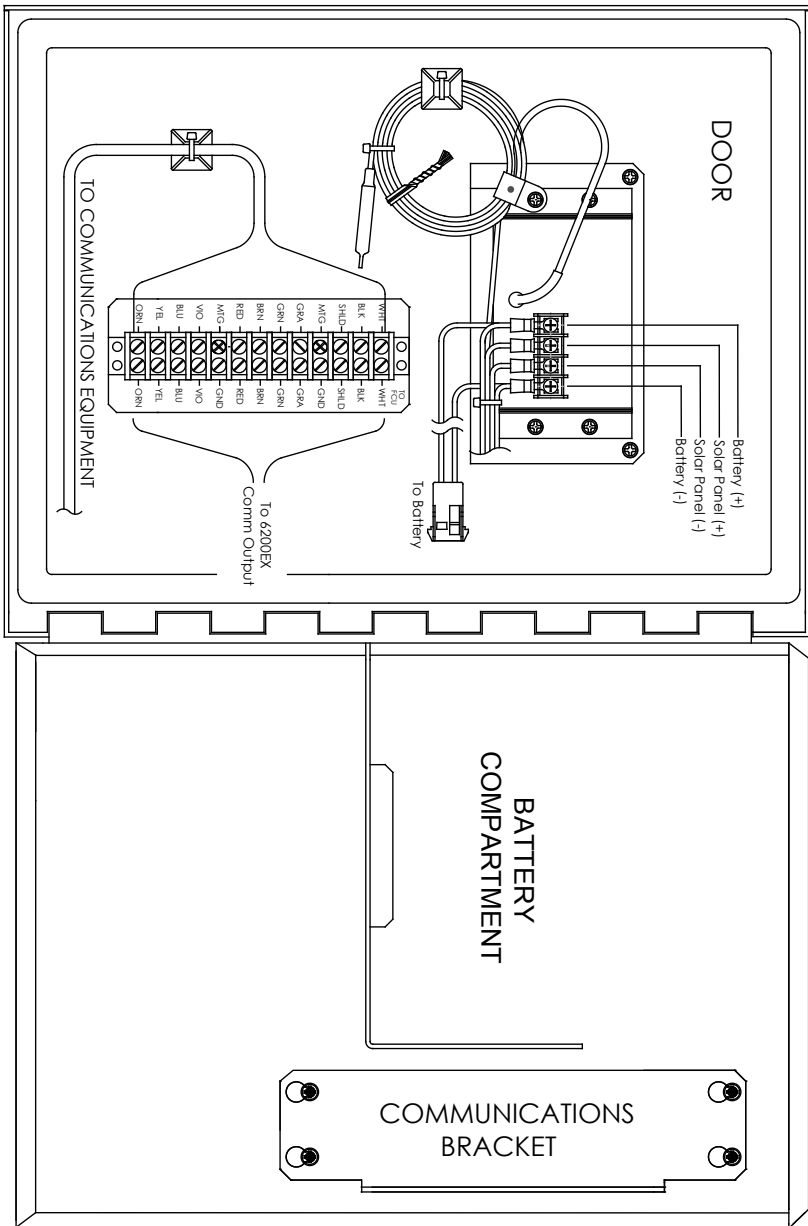

Fig. 9: OEU rotated 90 degrees for enlargement
3. Mount fully charged battery inside the optional enclosure or customer supplied equipment if required (Fig. 9). Do not make the connection.